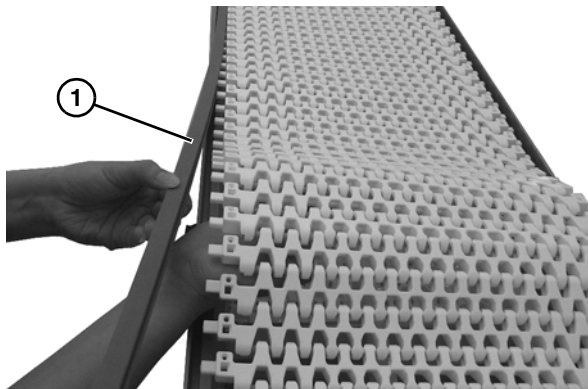

Figure 28
1. Lift belt off of frame and remove each edge strip (Figure 28, item 1) from side tabs of belt.